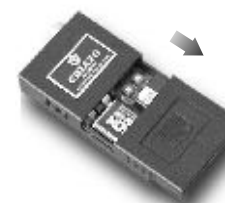

Fig.2
2. To access the battery, pull out the battery cover as in Fig.2.